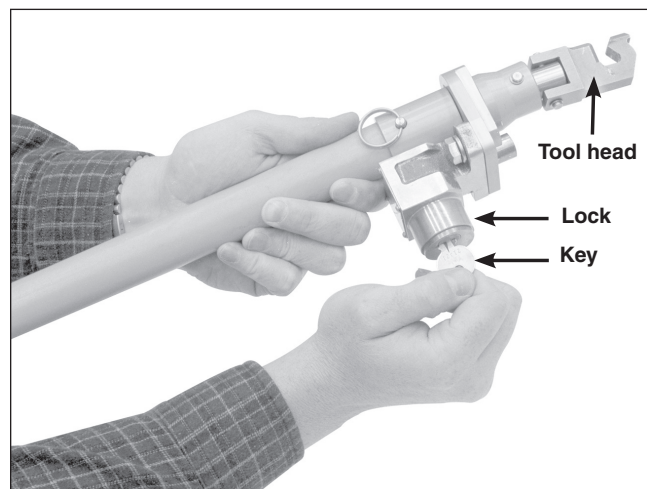

Figure 11. If furnished, use the key from the disconnect to lock the tool head in place.
- STEP 6.** If an optional key interlock is provided, remove the key from the disconnect. Use the key to lock the tool head in place. See Figure 11.